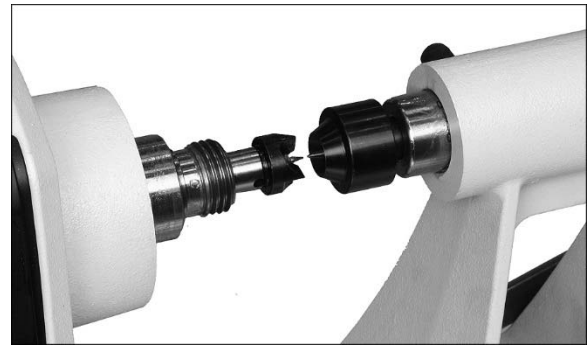

Figure 7-12: center alignment
2. Slide tailstock toward headstock until centers almost touch (see Figure 7-12). Lock tailstock in position.